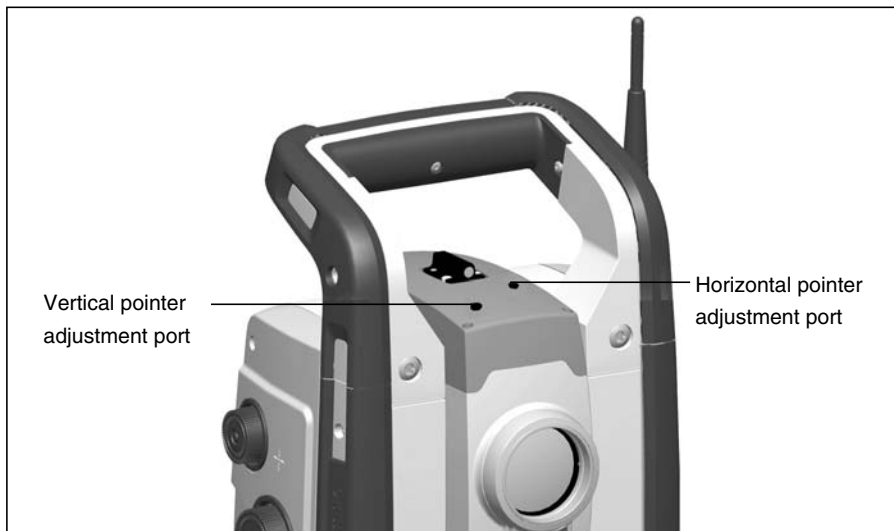

Figure 4.29 Laser pointer adjustment ports
1. Pull out the two plugs from the adjustment ports on top of the telescope housing as shown in Figure 4.29